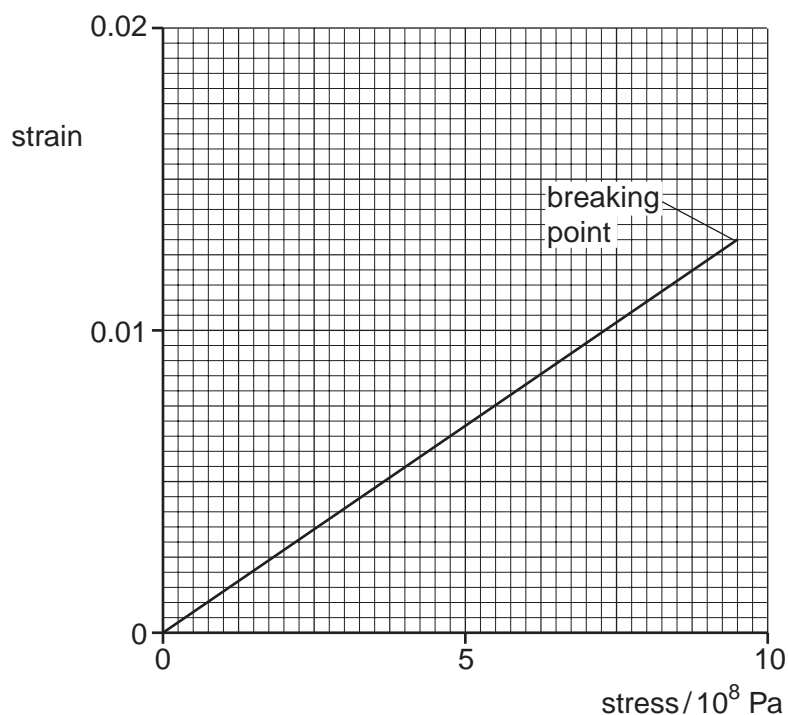

Fig. 4.1
- 6 A sample of material in the form of a cylindrical rod has length L and uniform area of cross-section A . The rod undergoes an increasing tensile stress until it breaks. Fig. 4.1 shows the variation with stress of the strain in the rod.
By reference to Fig. 4.1, calculate the maximum area of cross-section of the bubble such that the rod does not break.